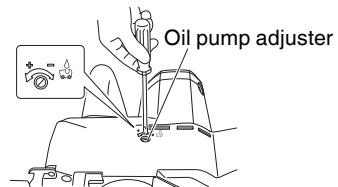

Fig. 16
- The chain oil lubricates automatically. The discharge rate for auto lubrication is factory preset to the maximum. To reduce the discharge rate, turn the oil pump adjuster on the rear of the body clockwise. (Fig. 16)
8. Checking chain oil discharge (Figs. 16, 17)